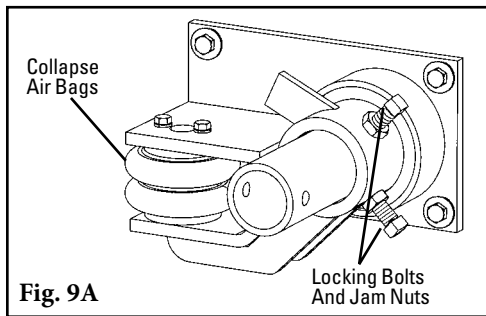

Fig. 9A
**9A. Tension the blades to the belt.** Collapse both air bags (with C-clamps) and rotate the blades until they are 1" short of contact with the belt. Tighten the torque arm locking bolts and jam nuts (Fig. 9A).